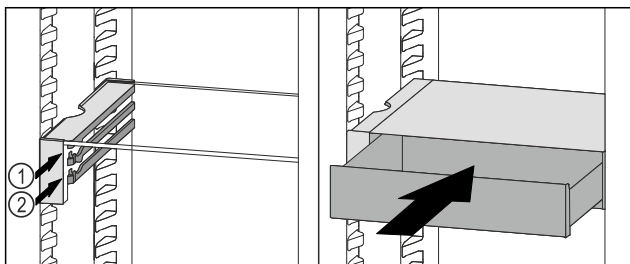

Fig. 246
- Place the VarioSafe drawer behind the stoppers on desired rib Fig. 246 (1) or Fig. 246 (2).